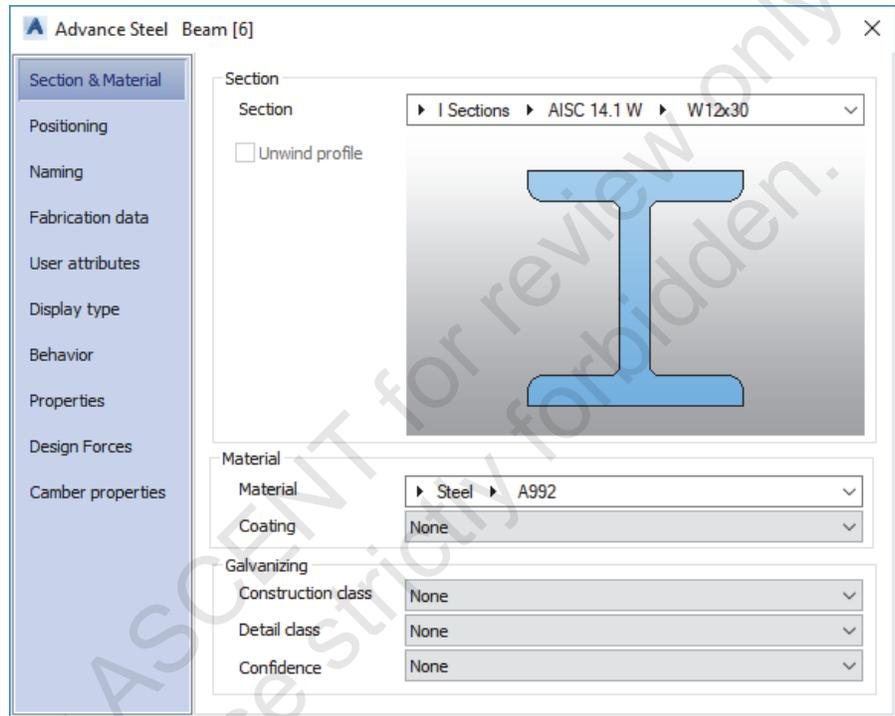

Figure 1–30
- In the model, double-click on a column. The Advance Properties command displays, as shown in Figure 1–30. Click through the tabs on the left and note the different options.